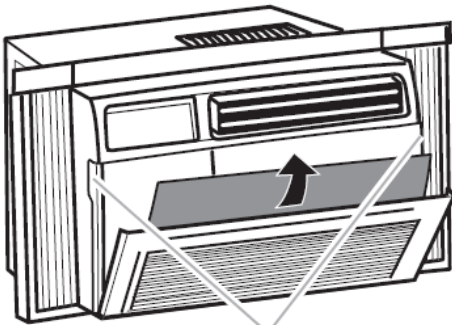

FIG. 13
6. For added insulation, cut the supplied insulation foam to the width of the window. Insert the foam between the window sashes to prevent air and objects from getting into the room. (See FIG. 13)
1. Remove the filter by pulling down on the indents of the filter door on the front of the unit. (See FIG. 13)